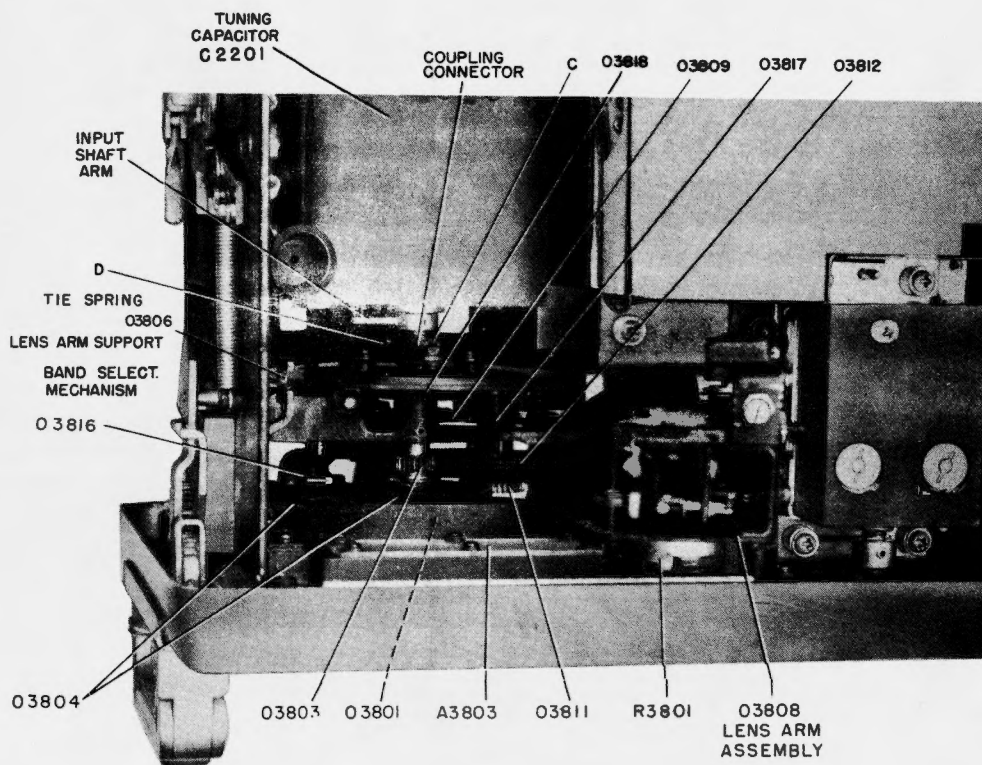

Figure 7-20. Dial Mechanism and Lens-Arm Assembly, Lifted, Top View
(5) REMOVING AND REPLACING THE TUNING DIAL. - (See figures 7-20 to 7-21).
(c) Refer to figure 7-20. Using one of the Allen wrenches that is clipped to the side of the chassis, loosen the two set screws C, D on the coupling connector between the tuning dial output shaft and the tuning capacitor input shaft.